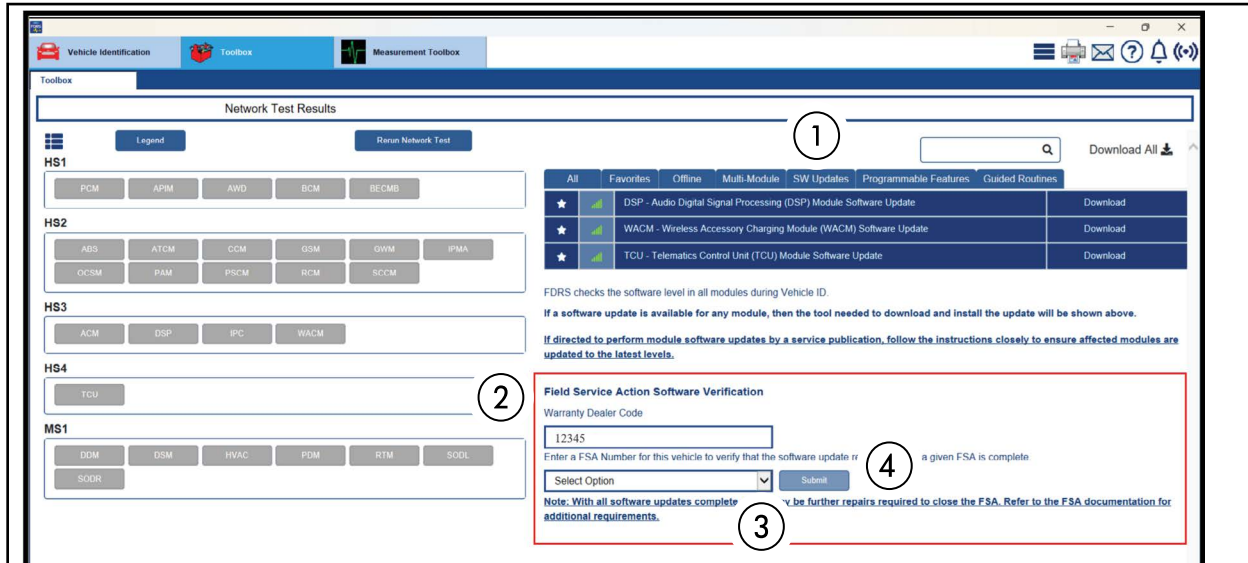

FIGURE 2
16. Select the **SW Updates** tab (1). See Figure 2.
17. **Warranty Dealer Code** (2) - Change the displayed PA code as necessary. See Figure 2.
18. Select the **FSA** (3) from the drop-down menu. See Figure 2.
19. Select **Submit** (4). See Figure 2.